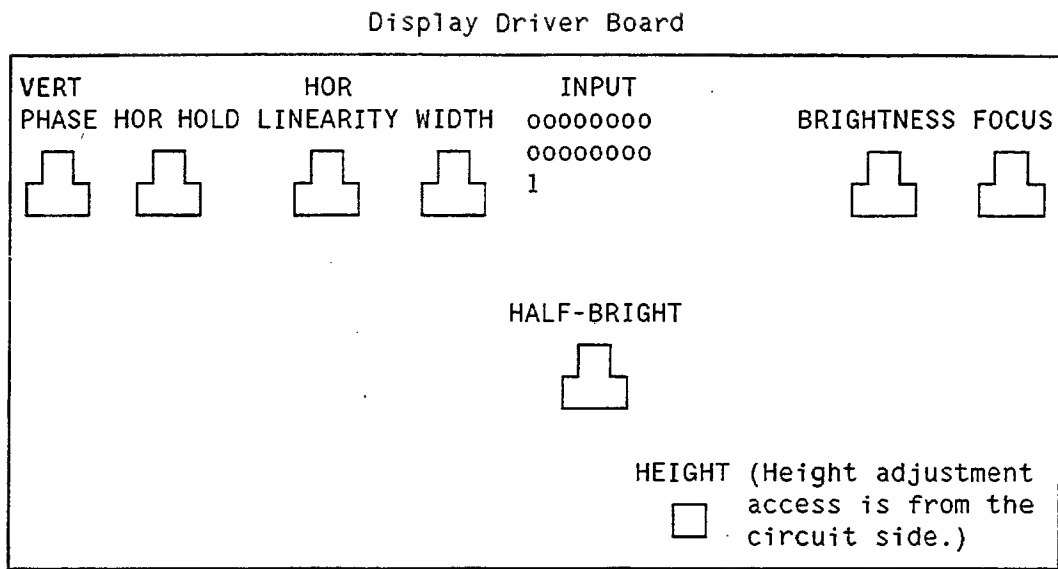
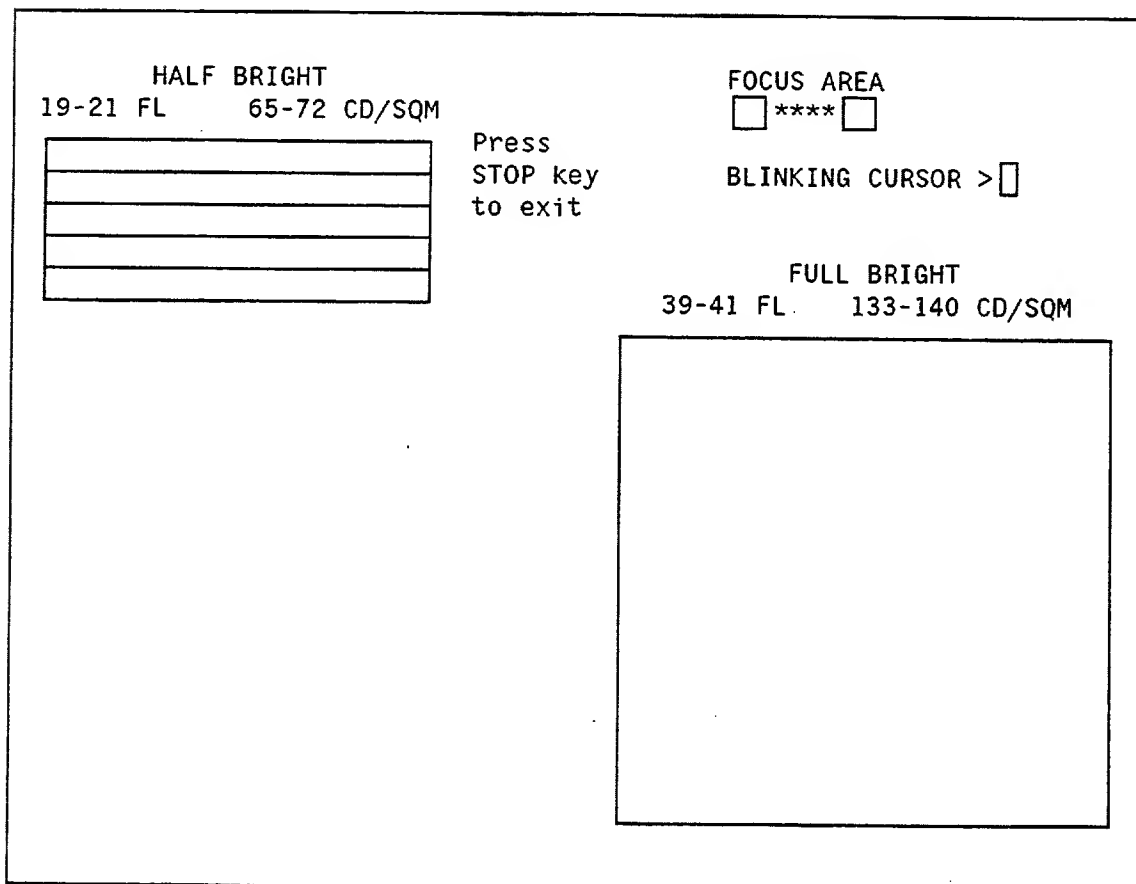

Figure 5-2. Display Adjustment Locations
Figure 5-4. Display Brightness Test Pattern
- h. Adjust BRIGHTNESS control pot to minimum (full counter-clockwise). See figure 5-2 for the display adjustment locations.
- f. Adjust the BRIGHTNESS control pot until the Display Test Pattern is visible. See figure 5-2 for the display adjustment locations.
If you have an older instrument that does not have a HALF-BRIGHT adjustment (see figure 5-2) use the BRIGHTNESS control to adjust the brightness of the half-bright area of the display (see figure 5-4) for 19-21 foot lamberts (65-72 CD/SQM).